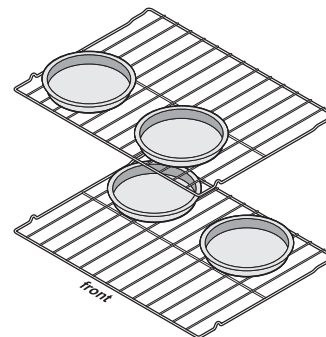

Figure 17: Pan spacing recommendations
- When baking using two oven racks, position cookware as shown in Figure 17. Allow at least 2 inches (5 cm) of space between cookware for proper air circulation.